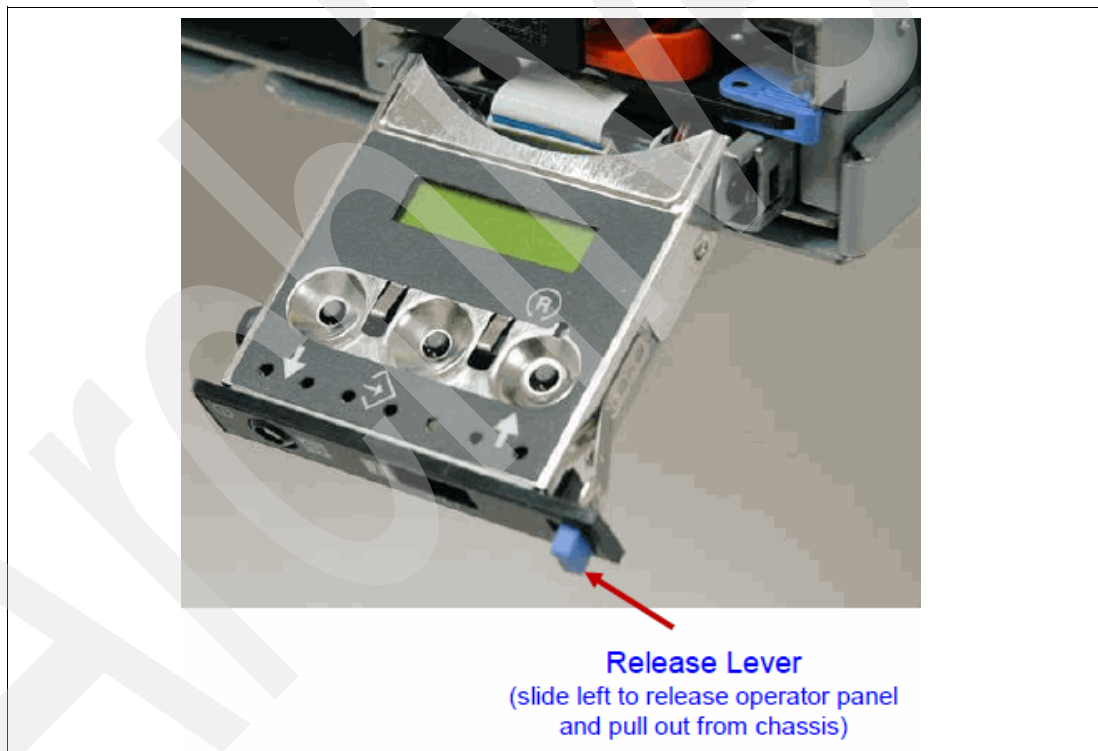

Figure 4-7 Operator panel is pulled out from the chassis
- ▶ By pulling out the panel to access the switches and to view the LCD display. Figure 4-7 shows that the operator panel on a Power 770 and 780 is pulled out.